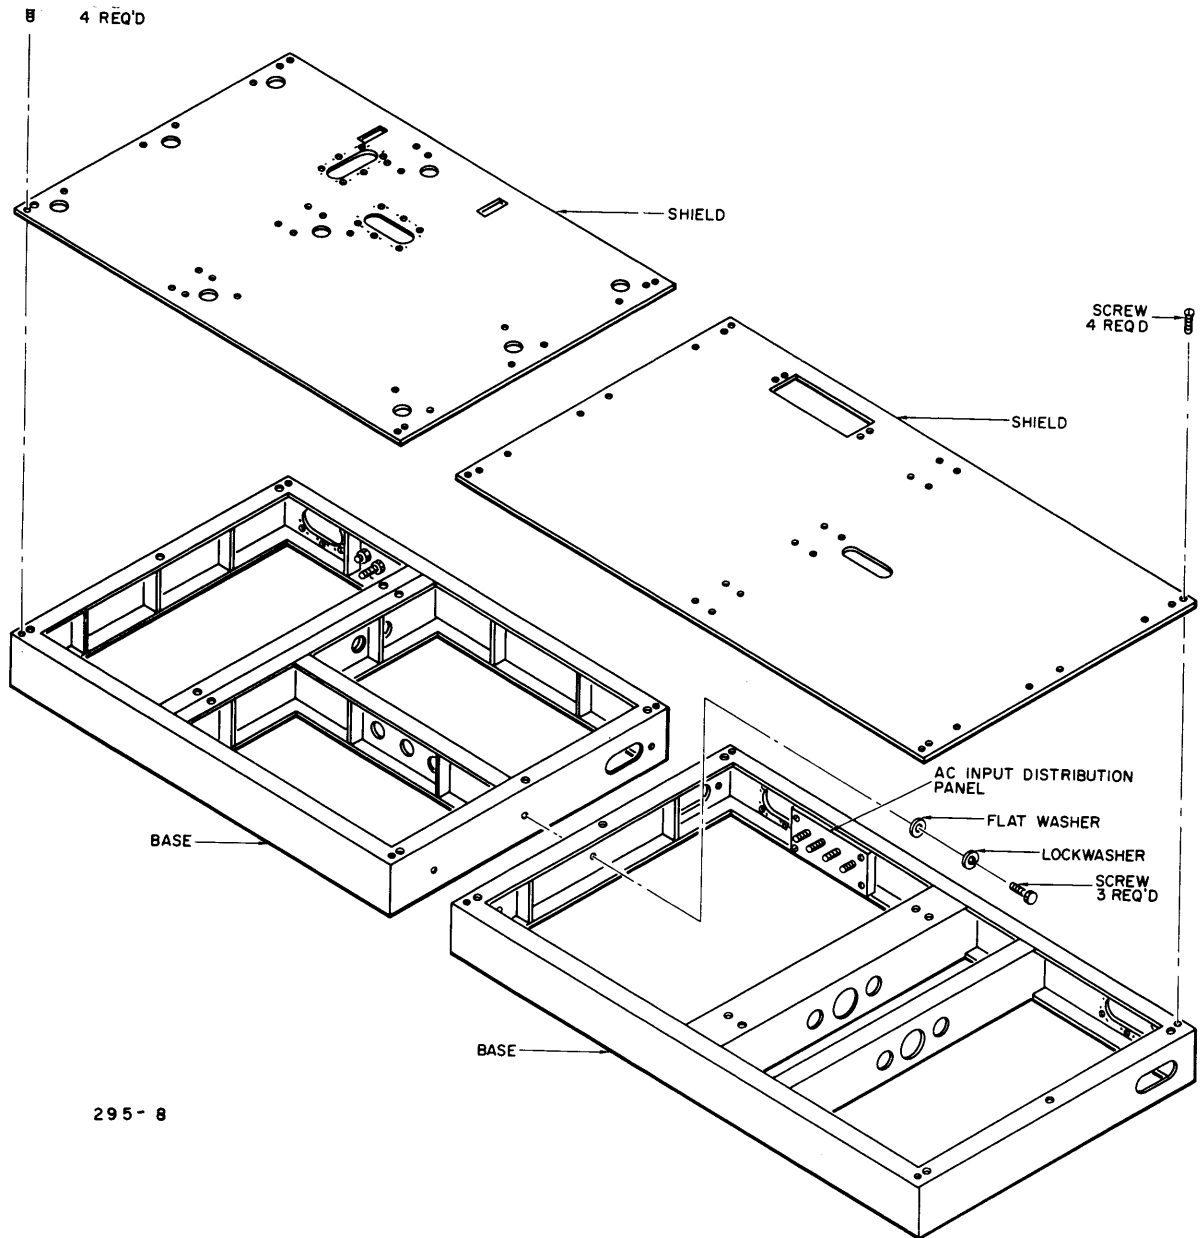

Figure 4-1. Base Assemblies for the First Through Fourth Frames, Installation Diagram.
- b. Remove shield from base assembly, figure 4-1, for the first and second frames. Shield will be replaced later.
- c. Position base assembly adjacent to base assembly positioned in step 3 (see figure 4-1).
d. Using hardware from crate 1 bag 1, tightly bolt two base assemblies together (see figure 4-1).
- a. Properly position shield, figure 4-1 on base assembly for first and second frames.
- a. Properly position shield, figure 4-1 on base assembly for third and fourth frames.
- c. Using hardware previously removed, tightly bolt shield to base assembly (see figure 4-1).